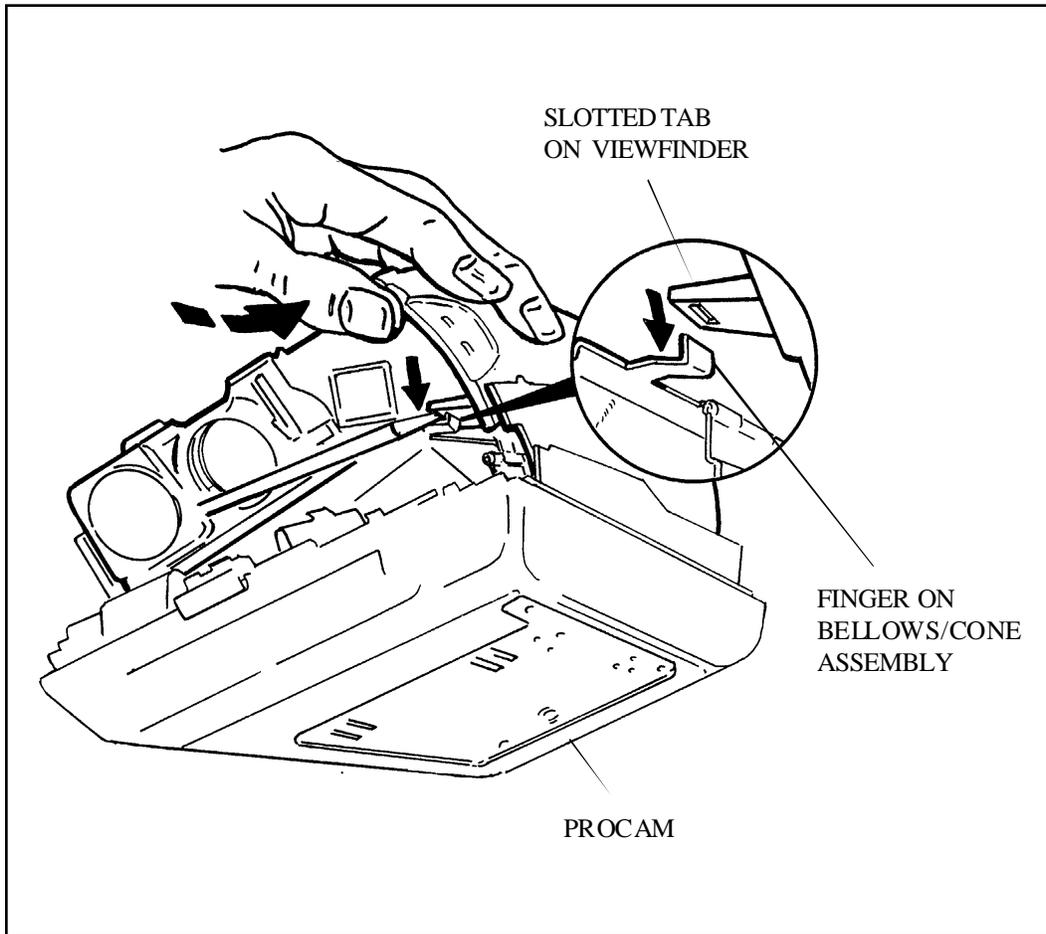

Figure 3-7. Removing Viewfinder Assembly
- a. Remove the Viewfinder by disengaging its front tab with a greenstick (Figure 3-7); insert the greenstick from the front between the metal finger on the Bellows/Cone Assembly and the slotted tab on the Viewfinder; pry upwards. Now slide the Viewfinder to the rear and lift it out.